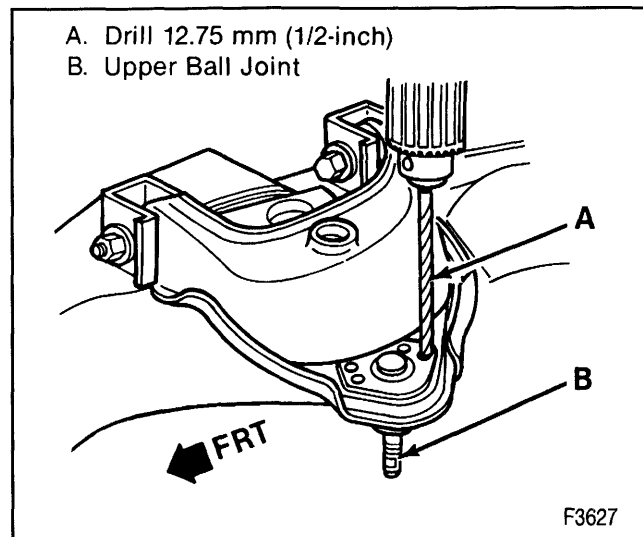

Figure 17—Drilling the Upper Ball Joint Rivet Heads
- B. Drill the rivet heads away using a 12.7 mm (1/2-inch) drill (figure 17).